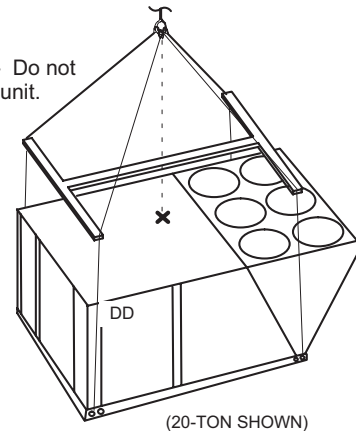

FIGURE 4
Rig unit for lifting by attaching four cables to holes in unit base rail. See FIGURE 4.
- 5 - Lifting point should be directly above center of gravity. See FIGURE 4 for center of gravity dimensions. Corner "DD" is on the left corner when facing compressors and heat section.